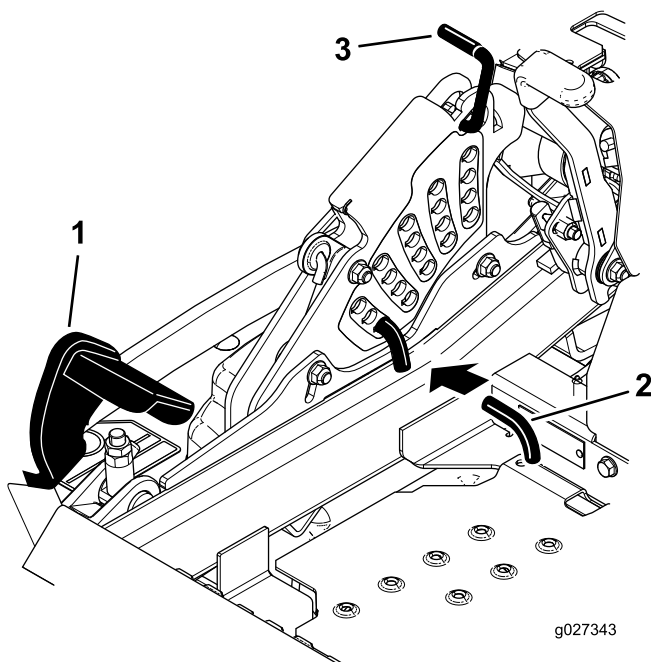

Figure 27
2. Push on the deck-lift pedal with your foot, and raise the mower deck to the transport position (also the 140 mm (5-1/2 inches) cutting height position) as shown in Figure 27.
3. To adjust, rotate the pin 90 degrees and remove the pin from the height-of-cut bracket (Figure 27).
4. Select a hole in the height-of-cut bracket corresponding to the height-of-cut desired, and insert the pin (Figure 27).